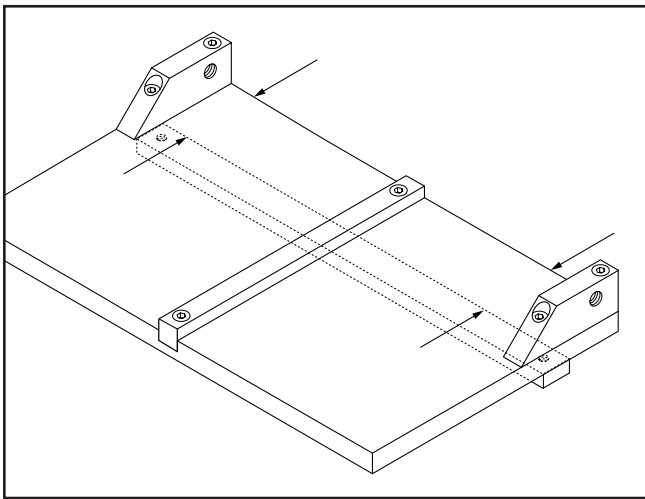

Figure 6. Checking for parallel.
1. Loosen the two (2) mounting screws that secure the miter bar to the base plate.
2. Measure the distance from the front edge of the base plate to the front edge of the miter bar, working from side to side until both the left and right measurements are equal. Figure 6.